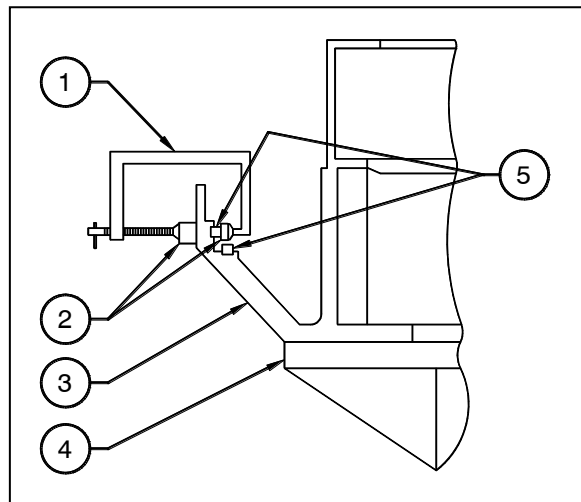

Figure 4.8e
- g. Referring to Figure 4.8e, mark and field trim the trailing end of the bearing strip where it overlaps the leading end.